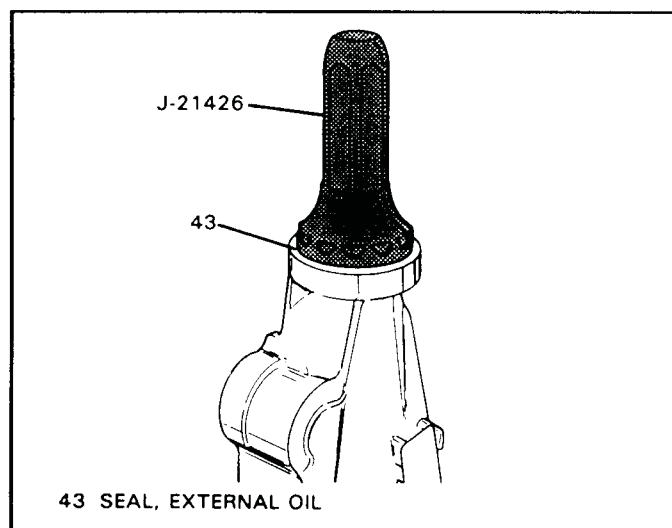

Figure 61
5. Install new rear case extension oil seal, using the seal driver, as shown in Figure 61.